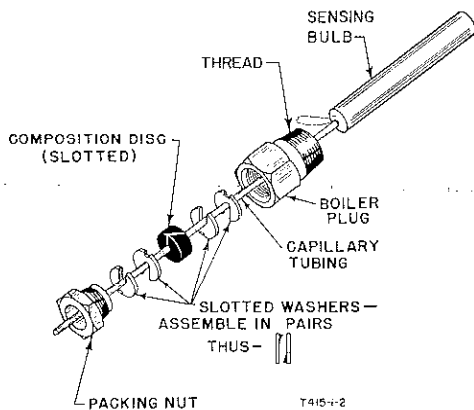

Fig. 6—Exploded view of compression fitting.
4. Place composition disc and the 4 slotted brass washers on tubing in the order shown in Fig. 6.